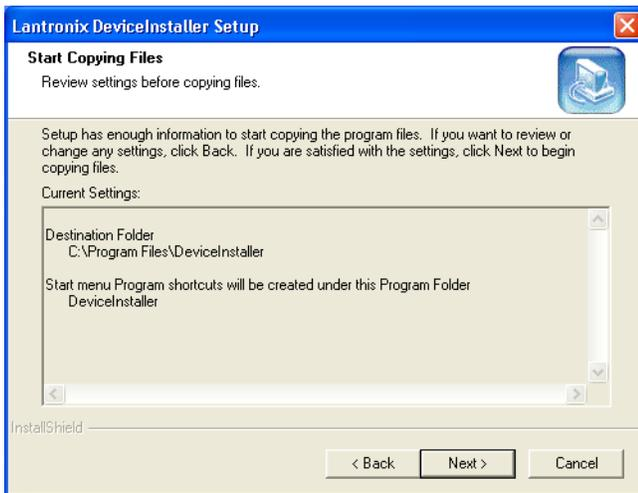

Figure 14: Start Copying Files
12. The default Program Folder is set for Accessories. This is where the Device Installer will be accessible using the Start menu. Once the Program Folder has been selected, click on the  button. The Start Copying Files window appears (see Figure 14 on page 13).